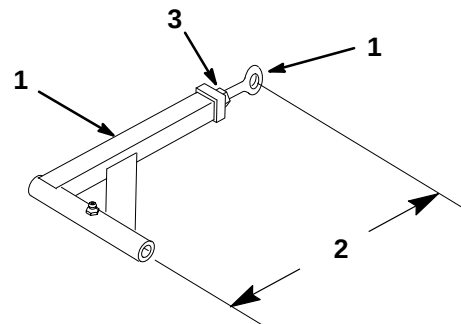

Figure 53
9. If the fixed idler contacts the end of the adjustment slot and more belt tension is required, a small change in the lengthen the push arms can be made (Fig. 53).
10. To adjust push arms, loosen jam nut and rotate ball joint counterclockwise, one turn at a time. Adjust each side the same amount (Fig. 53).